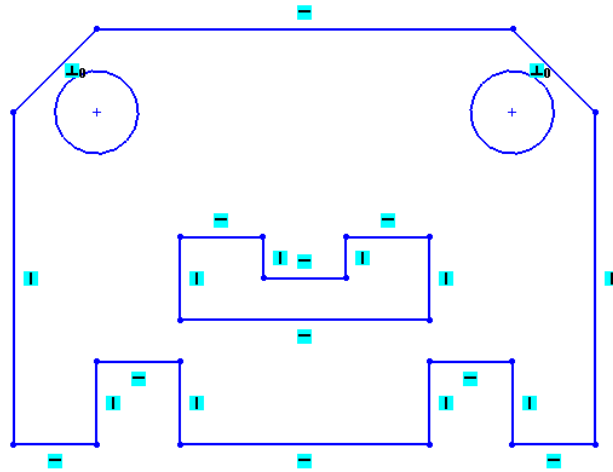

Figure 1-52 Final sketch for Tutorial 1
12. Choose the **Zoom to Fit** button from the **Standard** toolbar to fit the display of the sketch on the screen. The final sketch for Tutorial 1 is shown in Figure 1-52.
As evident from Figure 1-52, the sketch will be drawn using the **Line** tool. You will start drawing the sketch from the lower left corner of the sketch.